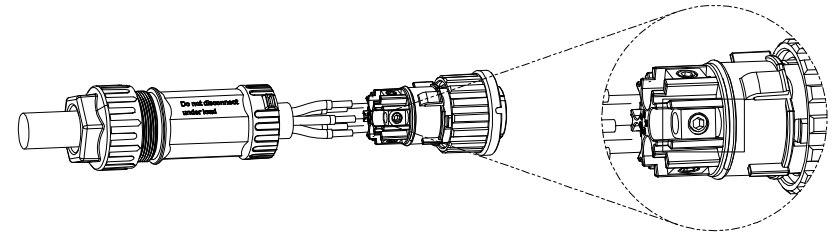

Figure 5.22 Connected cable
A) Stripped the insulation sleeve of cable for 70mm, so that bared copper-cored connector reaches for 9mm. Cable through nut and sleeve of socket element, insert corresponding terminals and tighten with allen wrench with 1.8-2.5N.m torque (see figure 5.22).
Tighten cable with 3.0 mm allen wrench (focus in dotted box, see figure 5.22). Allen screw is easy to drop off, don't screw out completely.